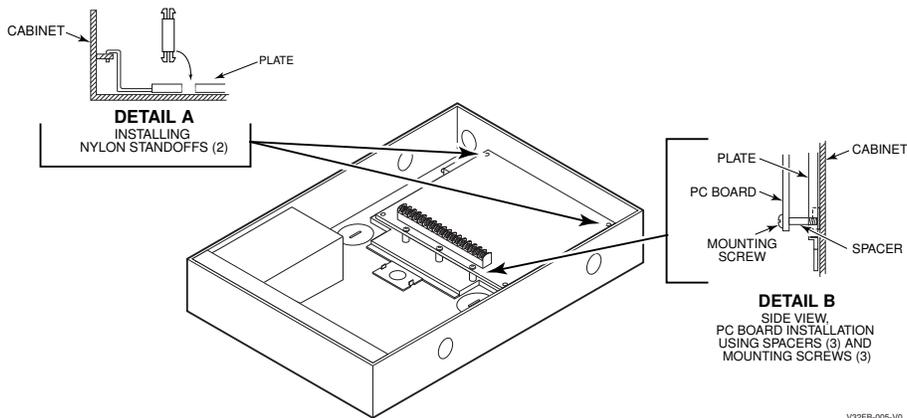

Figure 3-3: Mounting the PC Board
1	Install the nylon standoffs (supplied) into the top corner holes of the mounting plate (Figure 3-3, Detail A.) Insert the top of the circuit board onto the two standoffs at the top of the mounting plate.
- Dress field wiring away from the microprocessor (center) section of the PC board. Use small holes in the sidewalls of the cabinet for anchoring field wiring using tie wraps (Figure 3-3).
- Dress field wiring away from the microprocessor (center) section of the PC board. Use the mounting plate brackets on the left and right sidewalls of the cabinet for anchoring field wiring using tie wraps (Figure 3-3). These steps are important to minimize the risk of panel RF interference with television reception.